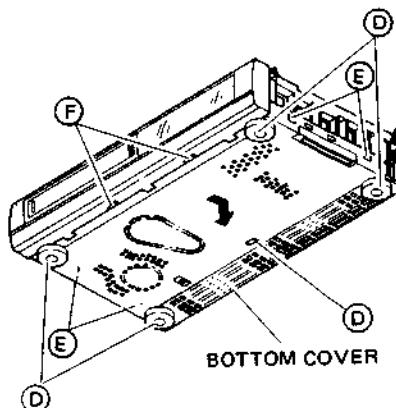

Fig. 1-1-3 Bottom cover
2. Refer to Fig. 1-1-3 and take out 5 screws **(D)** and disengage 4 claws **(E)** from the bottom of the chassis.